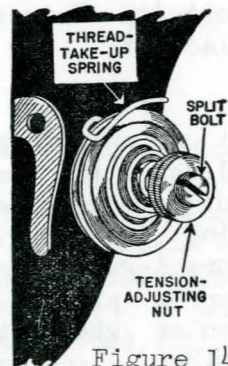

Figure 14
2. If the take-up spring seems weak and does not return to its stop position regularly, it needs another type of adjustment. On many machines the spring is held in place by the split bolt which passes through the tension disks. To adjust the spring remove the tension-adjusting nut, tension-adjusting spring and tension disks (Figure 14). Then replace the tension-adjusting nut on the split bolt to about the depth of the nut and unscrew the bolt with a screw driver. Replacing nut on the end of the bolt keeps screw driver from spreading the end of the bolt.